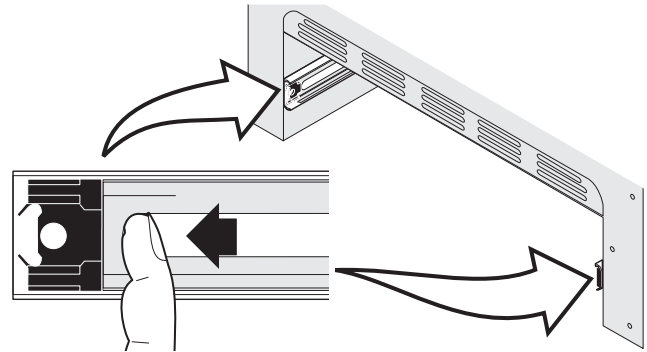

Figure 35: Bearing glide placement
1. Pull the bearing glides to the front of the outer compartment glide channels until they snap into place (See Figure 35).